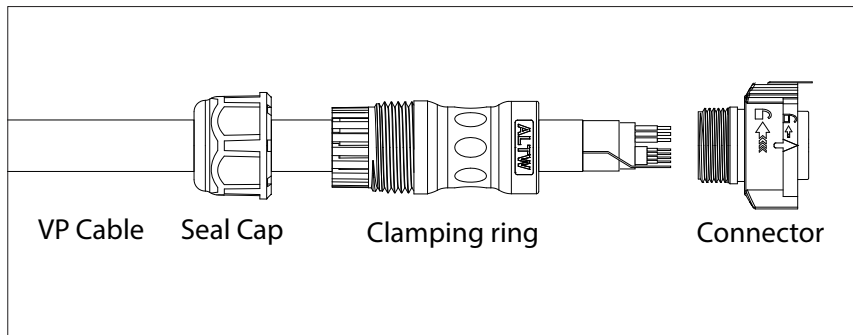

Figure 15: X-lok parts
2. Disassemble the X-lok connector and lead the cable through the seal cap (see figure 15).